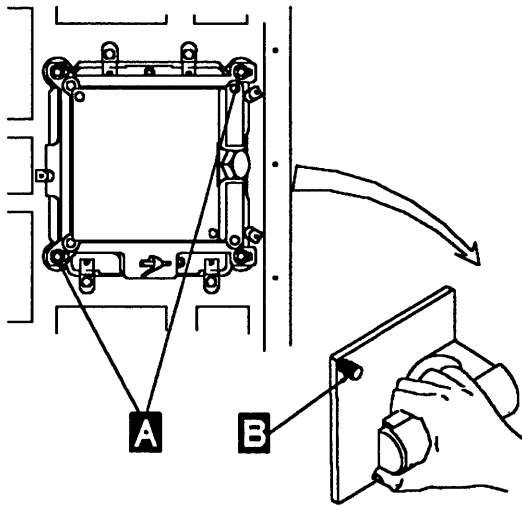

Figure 5-108. TCM Handle Removal
- Referring to Figure 5-108 on page 5-102:
- Move the cam guard to its rightmost limit and use the torque tool to tighten the four (4) TCM retaining screws completely **A**